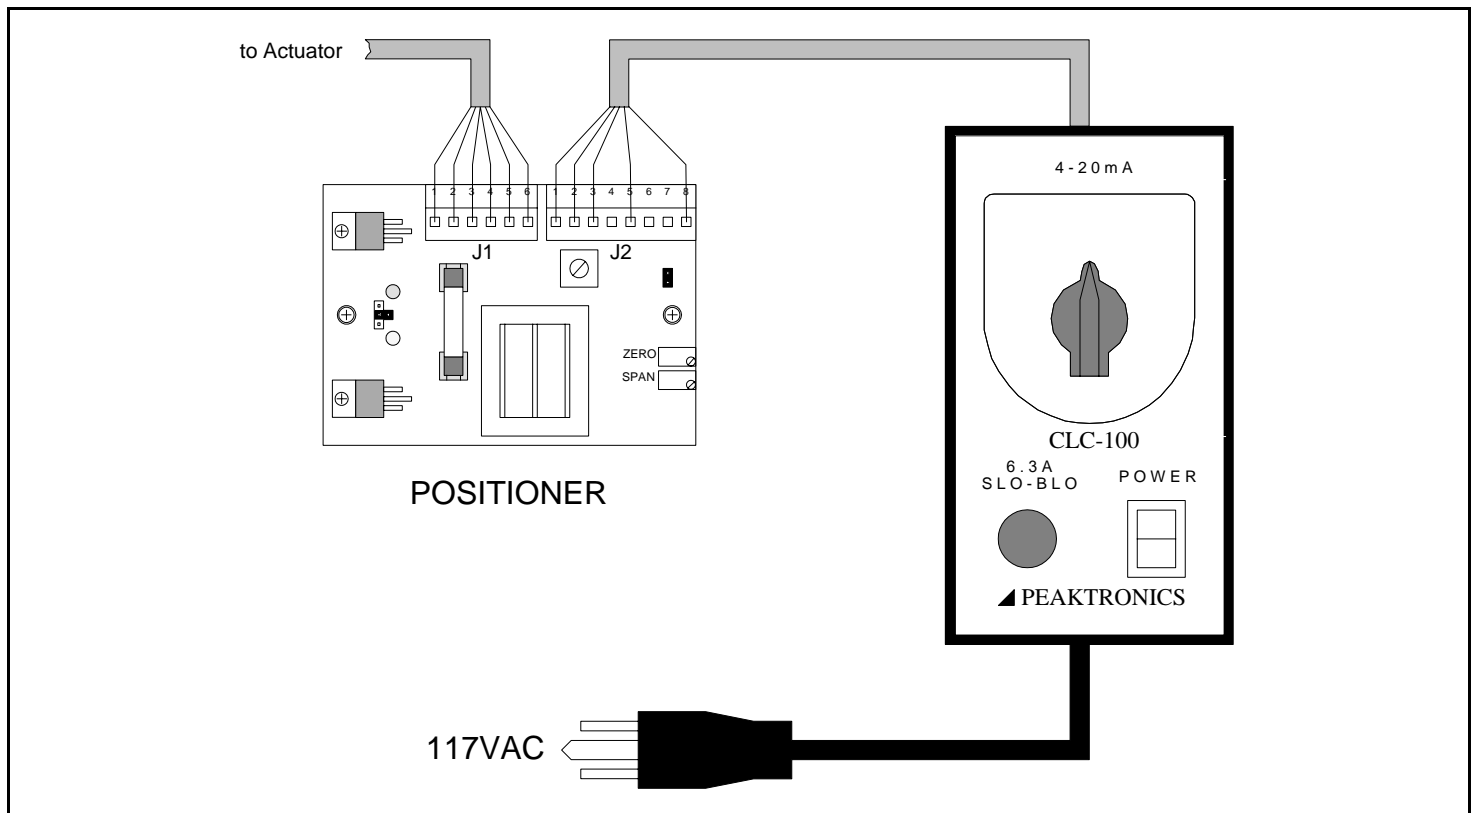

Figure 1
1. After the actuator limit switches and feedback potentiometer have been properly set, connect the 8 position plug to the positioner's 8 position connector (observing polarity). See Figure 1.